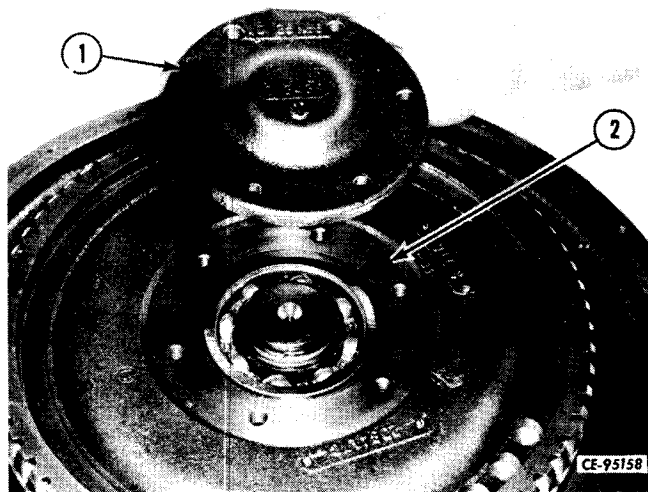

Figure 3-45
Invert the converter assembly. Position the bearing retainer (1, Fig. 3-45) on the rotating housing (2) and secure with cap screws. Tighten cap screws to the recommended torque (refer to "SPECIAL TORQUES").